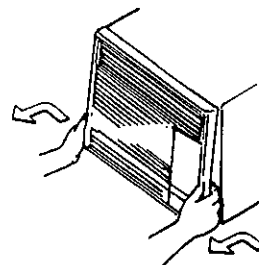

Fig. 5
- (2) Hold the bottom edge of the front panel and lift up to the front by pushing leftward (Fig. 5).